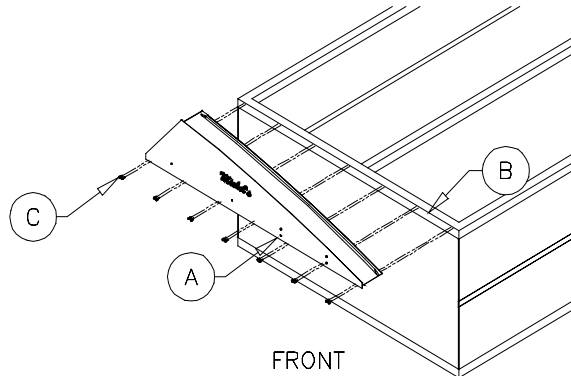

Figure 1
(See Figure 1)
**Procedure:** Center the front hood on the front wall of the box with the lower 1 inch flange (A) positioned flush against the outside front edge of the box. Using a 3/16" drill bit, drill 14 holes through the 1 inch flange and into the box wall (B) placing 2 holes at approximately every 15 inches (see Figure 1). Secure the front hood using the 1/4"x1" lag screws provided. Drill through the horizontal portion on each side of the front hood and secure using 1/4"x1" lag screws (C).